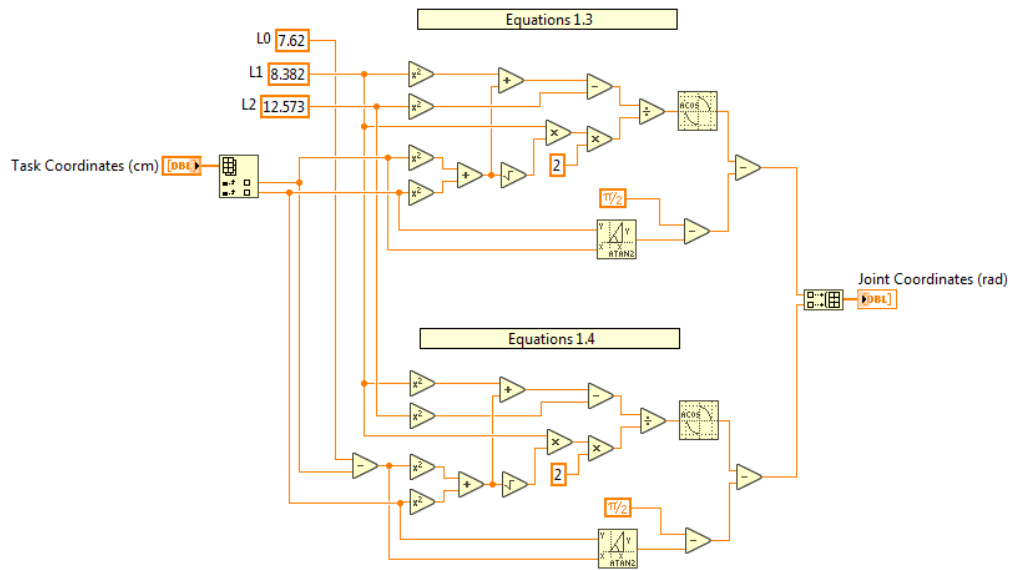

Figure 2.1: Inverse Kinematics formulation
1. Open Mechatronic Systems.lvproj, and under Quanser ELVIS RIO | Subsystems, open Inverse Kinematics.vi. Open Inv Kin.vi. Complete the model according to that shown in Figure 2.1. The code is similar to Equation 1.3 and Equation 1.4. Test the VI with the following values for \vec{E} and comment on the results.